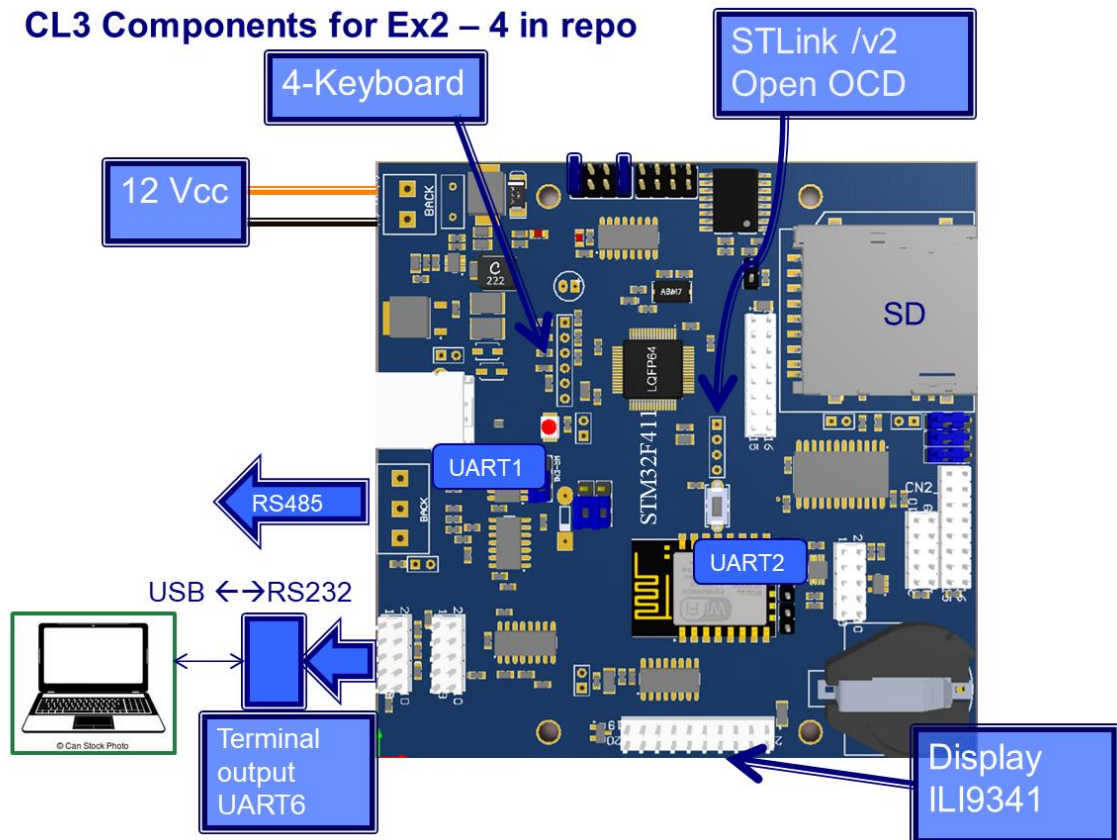

Figure A.1 – Connecting the CL3 board for Example 2
**3.b.2 Using STM32CubeIDE to run Ex3:** To run this example, connect all components as in Figure A.1 of APPENDIX I, and repeat the sequence from Run→Debug Configurations, as in Figure 13 thru Figure 16 with the \_Ej3 project. Figure 18 shows the display output of a CL3 (to the right) connected to a ILI9341 display and executing thru an STLink/V2 debugger probe on the left section of a Nucleo Development board. Figure 19 shows the F4 screen, the detail of the STLink/V2 probe (electrically detached from a generic STM32 Nucleo board) and the terminal output for Example 3.